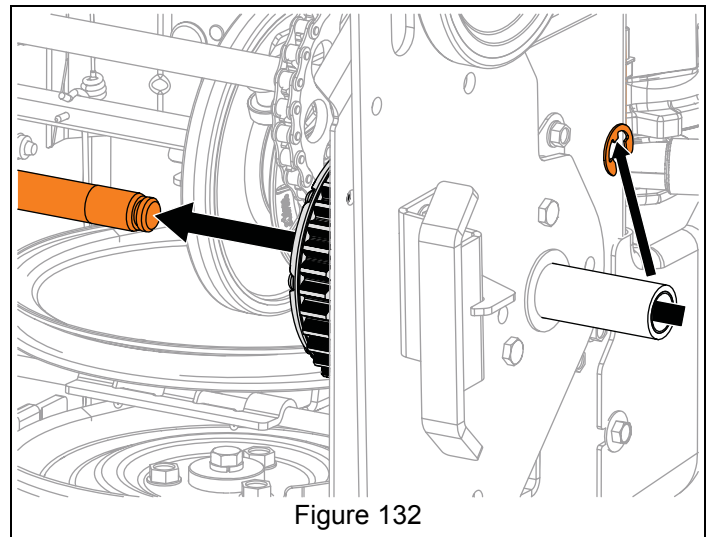

Figure 132
See Figure 132.
6. Remove E-ring from axle end and remove axle from differential, but DO NOT completely remove axle from unit. See Figure 132.